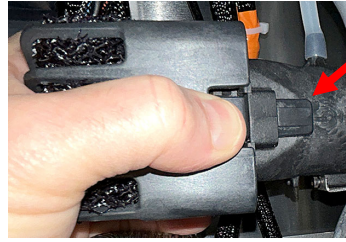

Figure 1
- 3) Remove the filter bracket by gently pressing in on the left and right tabs on both sides of the bracket (see Figure 1), while gently pulling the bracket off the fan (see Figure 2).